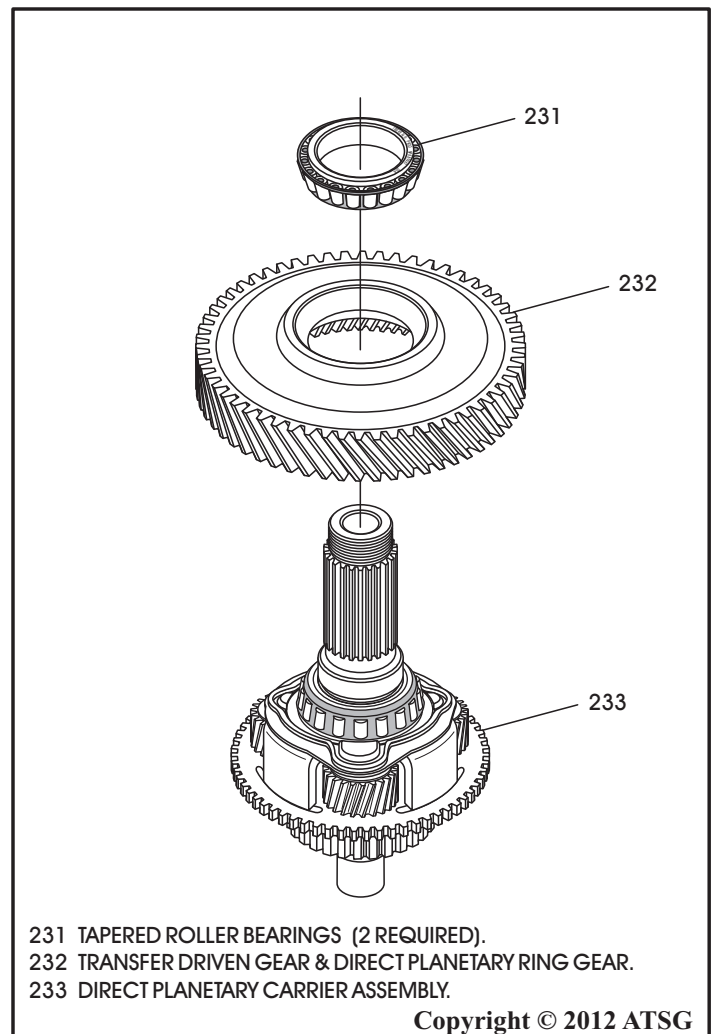

Figure 176
12. Install the transfer driven gear/direct ring gear onto the direct planetary carrier, as shown in Figure 176, and rotate into position to engage planetary pinions.
13. Install the second tapered roller bearing onto the direct planetary carrier, as shown in Figure 176.